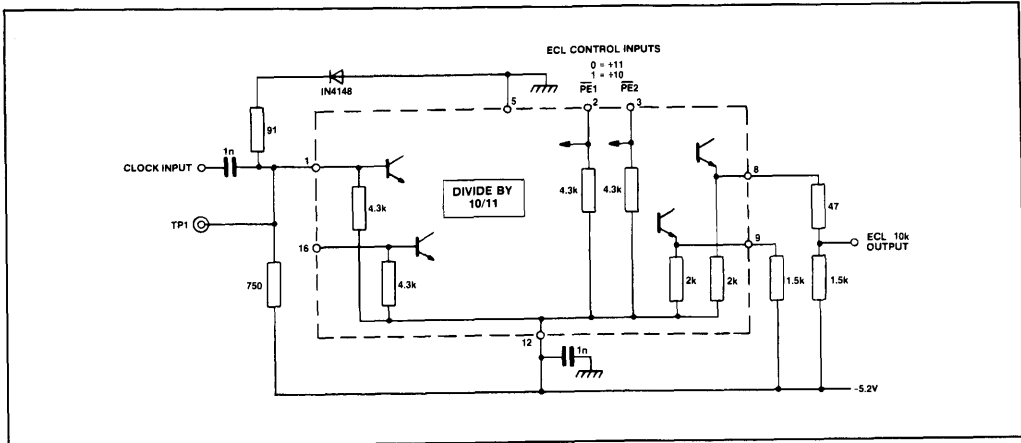

Fig.7 Typical application using ECL outputs. NB Voltage at TP1 should be -1.3V at 25° C
2. The outputs are compatible with ECL II but can be interfaced to ECL 10K as shown in Fig. 7.